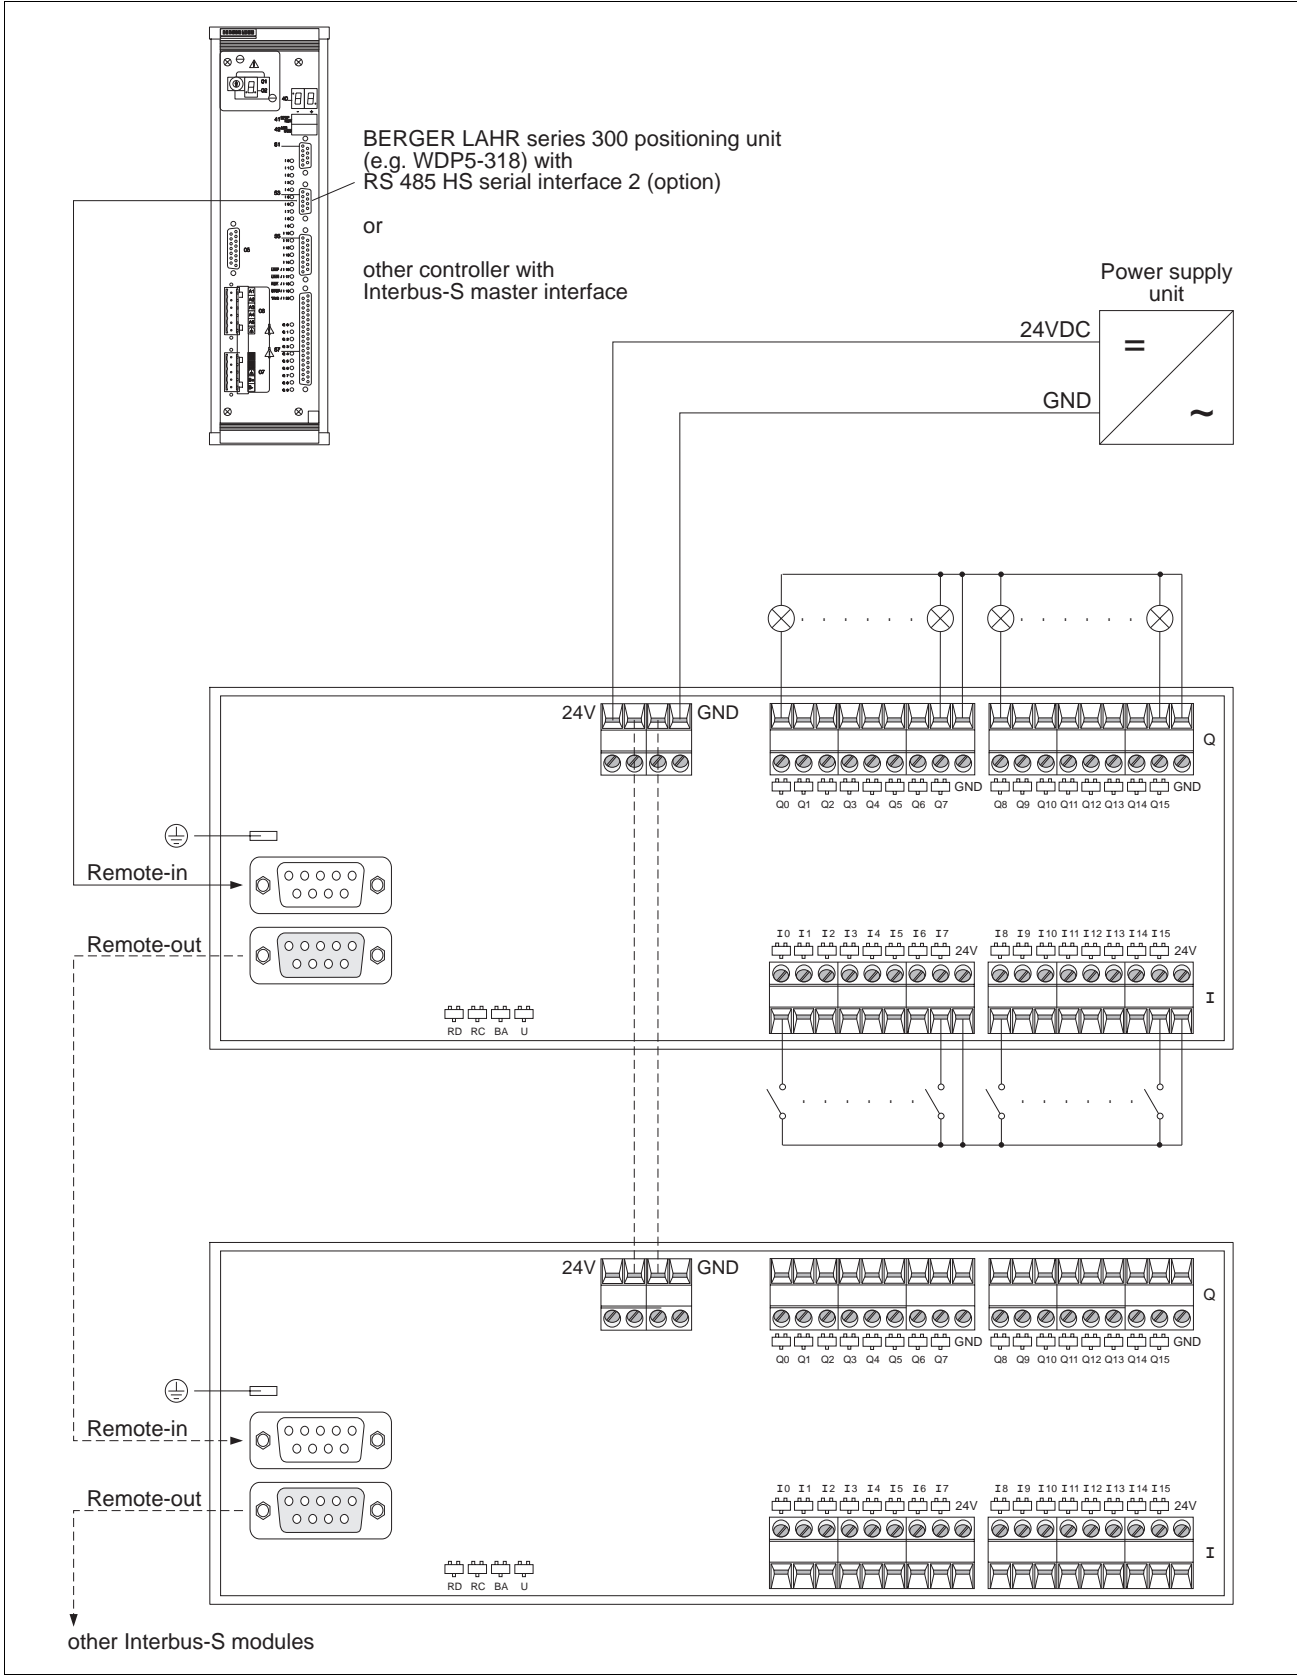

Fig. 2 MP 926 wiring layout
5. Connect the inputs and outputs (see fig. 2).
6. Connect the voltage supply (see fig. 2).